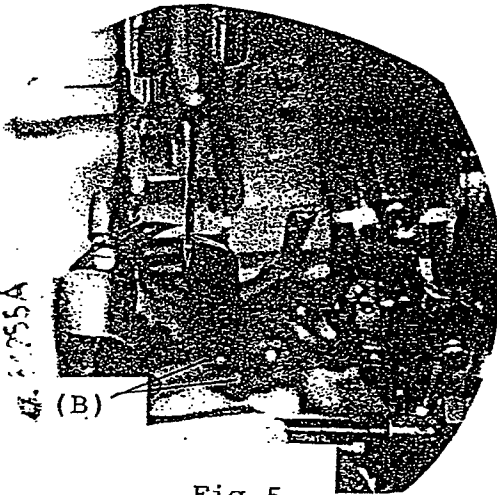

Fig. 5
Set the rear needle guard (Looper lever needle guard) so that it barely contacts the needle when the looper point approaches the left side of needle. Adjustment can be made by loosening the two screws (B) / Fig. 5 and re-set the needle guard at proper position.